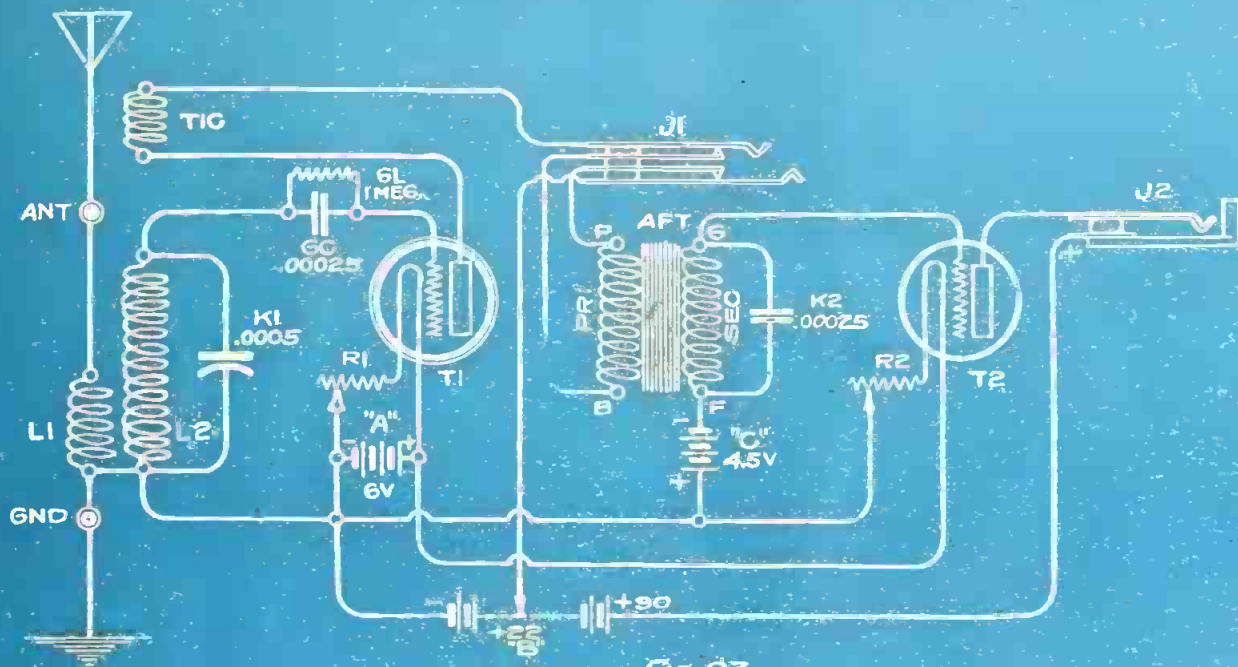

FIG. 23
In Fig. 23 is a regenerative circuit with one stage of audio frequency amplification, a type of circuit, very commonly met with. The detector tube (T1) is a soft tube, while the amplifier tube (T2) is a hard tube, as will be seen from the circles. A coupler is used for tuning, having the primary coil (L1) and the secondary coil (L2), this being used sometimes instead of the abbreviations "PRI" and "SEC." The secondary is tuned by the variable condenser (K1). For regeneration we have the tickler coil (TIC) placed directly above the secondary coil (L2) and connected with it by means of an arrow. The arrow in this case indicates that the two coils are inductively coupled by a variable relation; that is, that the position of (TIC) can be varied in respect to (L2). The grid condenser (GC) and the grid leak (GL) are shown connected to the grid of the tube.